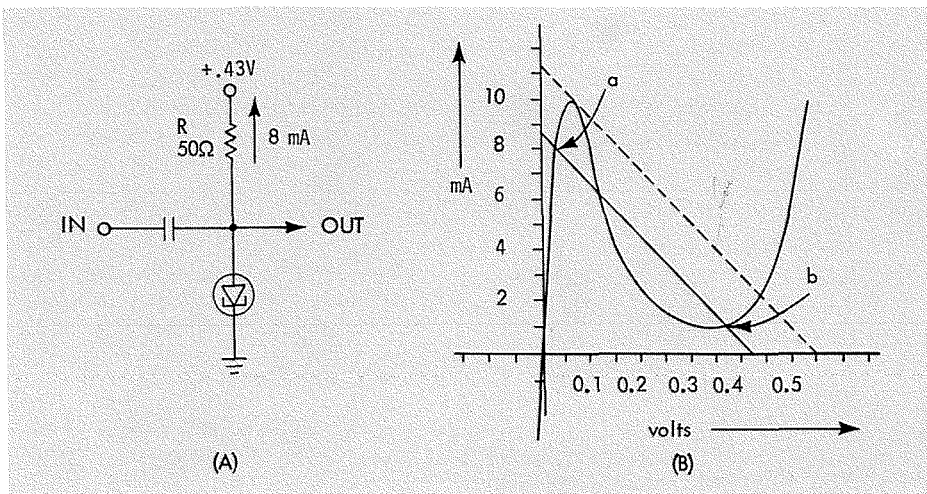
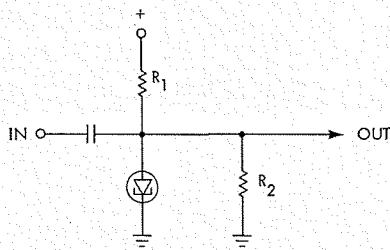
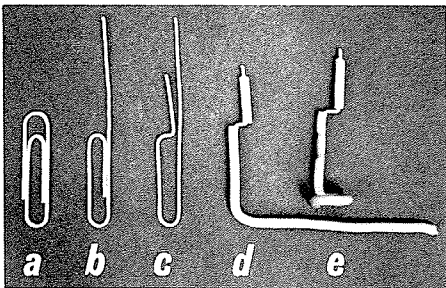
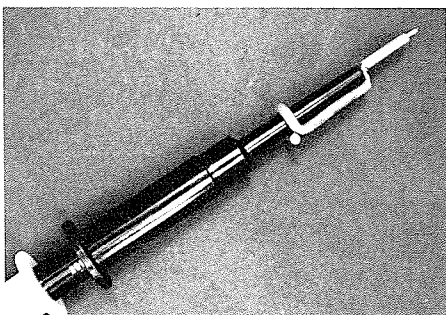

Figure 3 (A) Basic tunnel diode switch for monostable operation. (B) AC and DC load lines superimposed on a 10-mA curve of the tunnel diode in Figure 3, (A).
Figure 4
Figure 1. Progressive steps in forming the retractable-hook tip extender.
Figure 2. Completed insulated extender in position on a retractable-hook tip.
In order to understand the operation of the back diode, let us consider a few basic circuits. Figure 2 shows a basic tunnel-diode (TD) switch.
Figure 2 (A) Basic tunnel-diode switch circuit for bi-stable operation. (B) AC and DC load lines superimposed on a 10-mA curve of the tunnel diode in Figure 2, (A).
The TD must return to the low-voltage state to respond to the next trigger signal. One way to insure that the TD always returns to the low-voltage state after a trigger occurs is to use a very small series R and a low voltage source. See Figure 3.
the output voltage in Figure 3 less than the output voltage of the circuit in Figure 2. The duration of the output signal is the same as the input signal, resulting in monostable operation.
Figure 4 shows another method of obtaining the low impedance load described in the previous paragraph. This circuit has the same characteristics as the circuit in Figure 3 except:
Figure 1 shows the steps in forming the extender. A. Start with an ordinary paper clip. B. Straighten the outside wire. C. Bend the inside wire to leave a crook. D. Bend the longer wire to form a right angle to the short wire and slip two pieces of insulation over the wire leaving the crook bare. E. With the retractable-hook tip, grip the partially formed extender at the crook and wrap the longer insulated portion around the shaft of the retractable-hook trip to form a one turn coil. Figure 2 shows a probe with the retractable-hook tip gripping the completed extender.